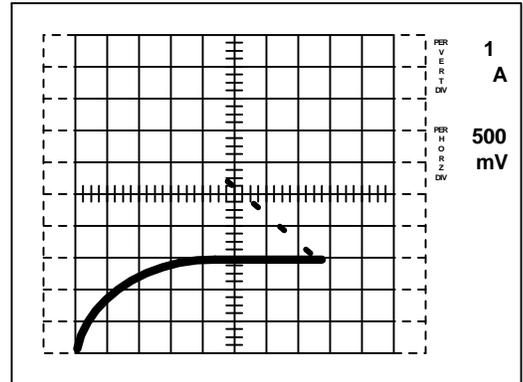

Figure 7. Drain-source resistance, pulsed mode
15. Connect the device using the LEFT/RIGHT switch and raise the VARIABLE COLLECTOR SUPPLY voltage until the desired value of drain current is obtained.  $R_{DS(on)}$  is obtained from the trace by reading the peak values of current and voltage (see Figures 7 and 8).